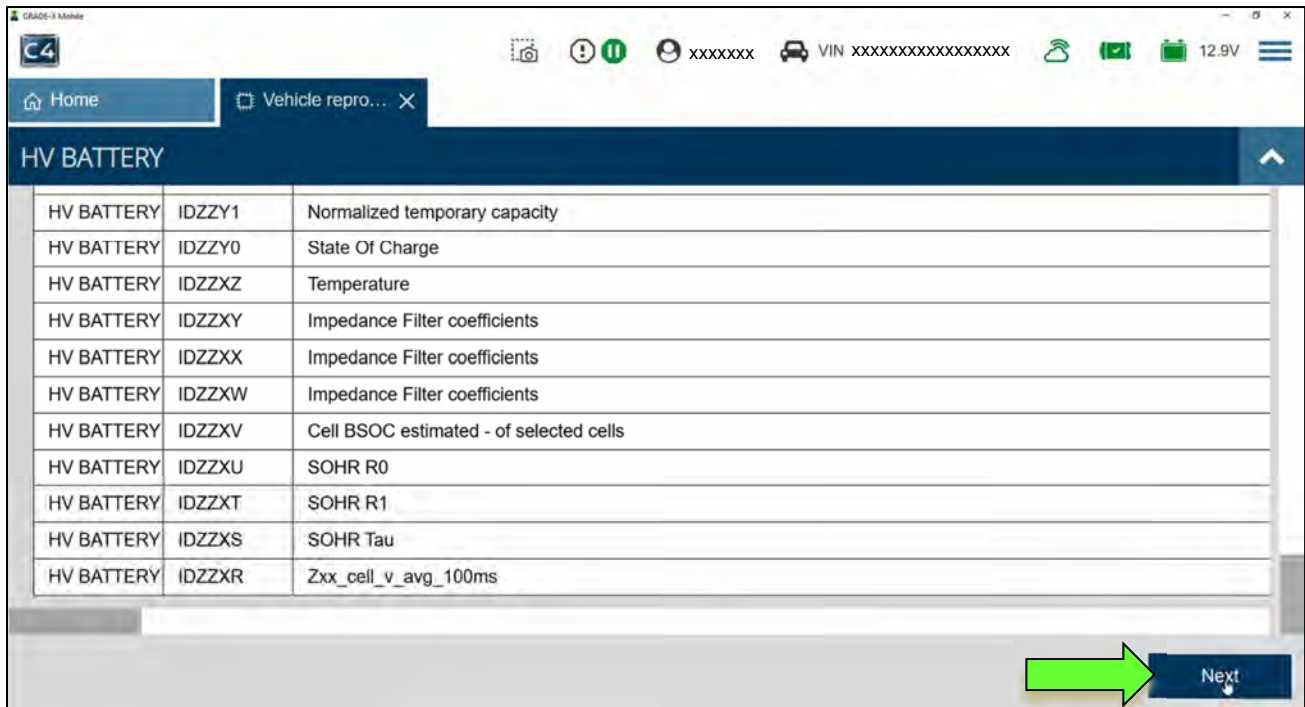

Figure 31
53. When the screen in Figure 31 is displayed, select **Next**.